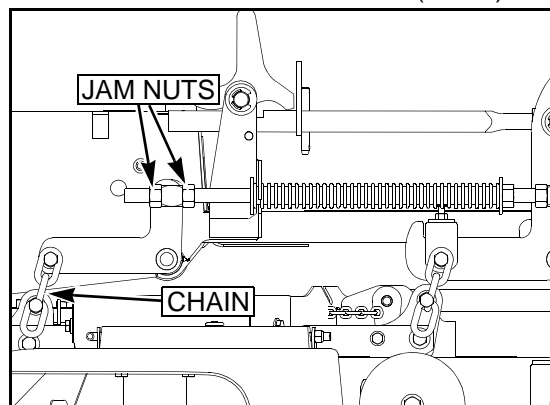

FIG. 6
20. Make sure that there is still slack in the chain. If not, loosen the two nuts on the block holding the threaded rod until there is slack in the deck lift chain (FIG. 6).
21. Tighten the appropriate nut until the chain just becomes tight, making sure that the deck stays tight against the blocks (FIG. 6).